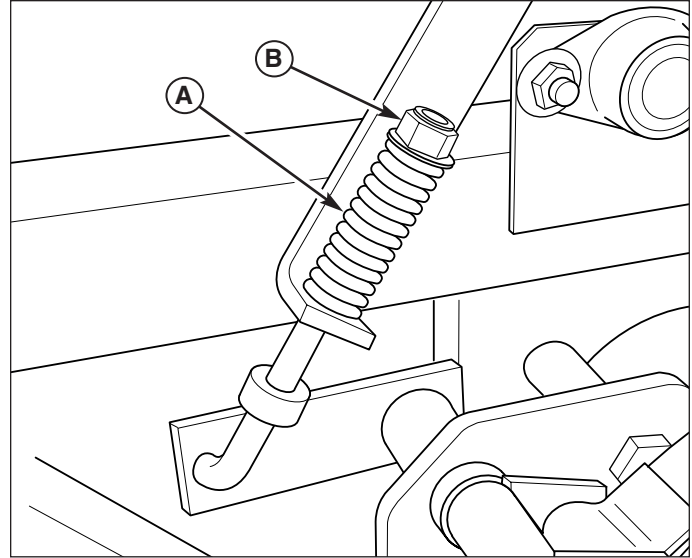

Figure 24. Parking Brake Adjustment
3. Locate the brake spring (A, Figure 24).
5. If the spring is not within this range, release the parking brake and turn the adjustment nut (B, Figure 24) to compress or release the spring.